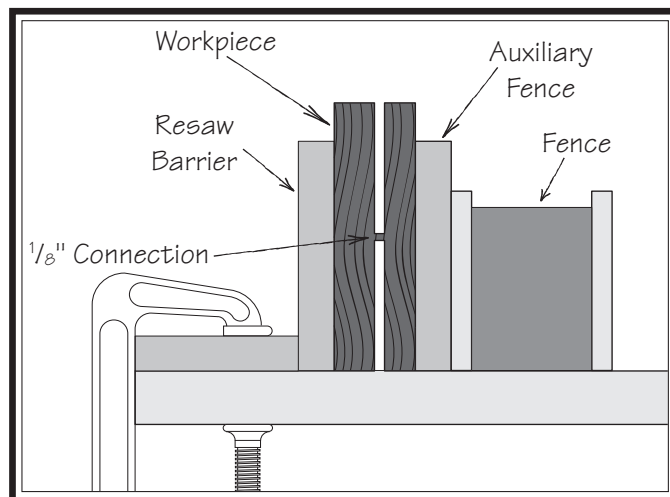

Figure 82. Ideal completed resaw cut.
4. Place workpiece against fence and slide resaw barrier against workpiece. Now clamp resaw barrier to top of table saw (see **Figure 82**).
6. Raise blade approximately an inch, or close to half the height of the workpiece (see **Figure 82**), whichever is less.
9. Repeat **Steps 6–8** until the blade is close to half of the height of the board to be resawn. The ideal completed resaw cut will leave a $\frac{1}{8}$ " connection when resawing is complete as illustrated in **Figure 82**. Leaving a $\frac{1}{8}$ " connection will reduce risk of kickback.